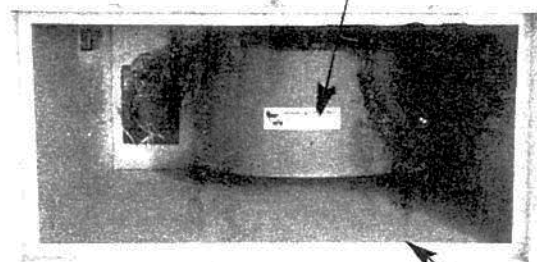

Fig 9a
- Vacuum out the inside of the filter housing. (See fig 9a)